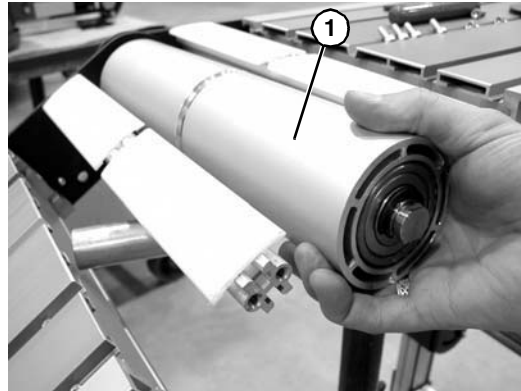

Figure 76
4. Slide the idler pulley assembly (**Figure 76, item 1**) out of the knuckle plate on the opposite side.